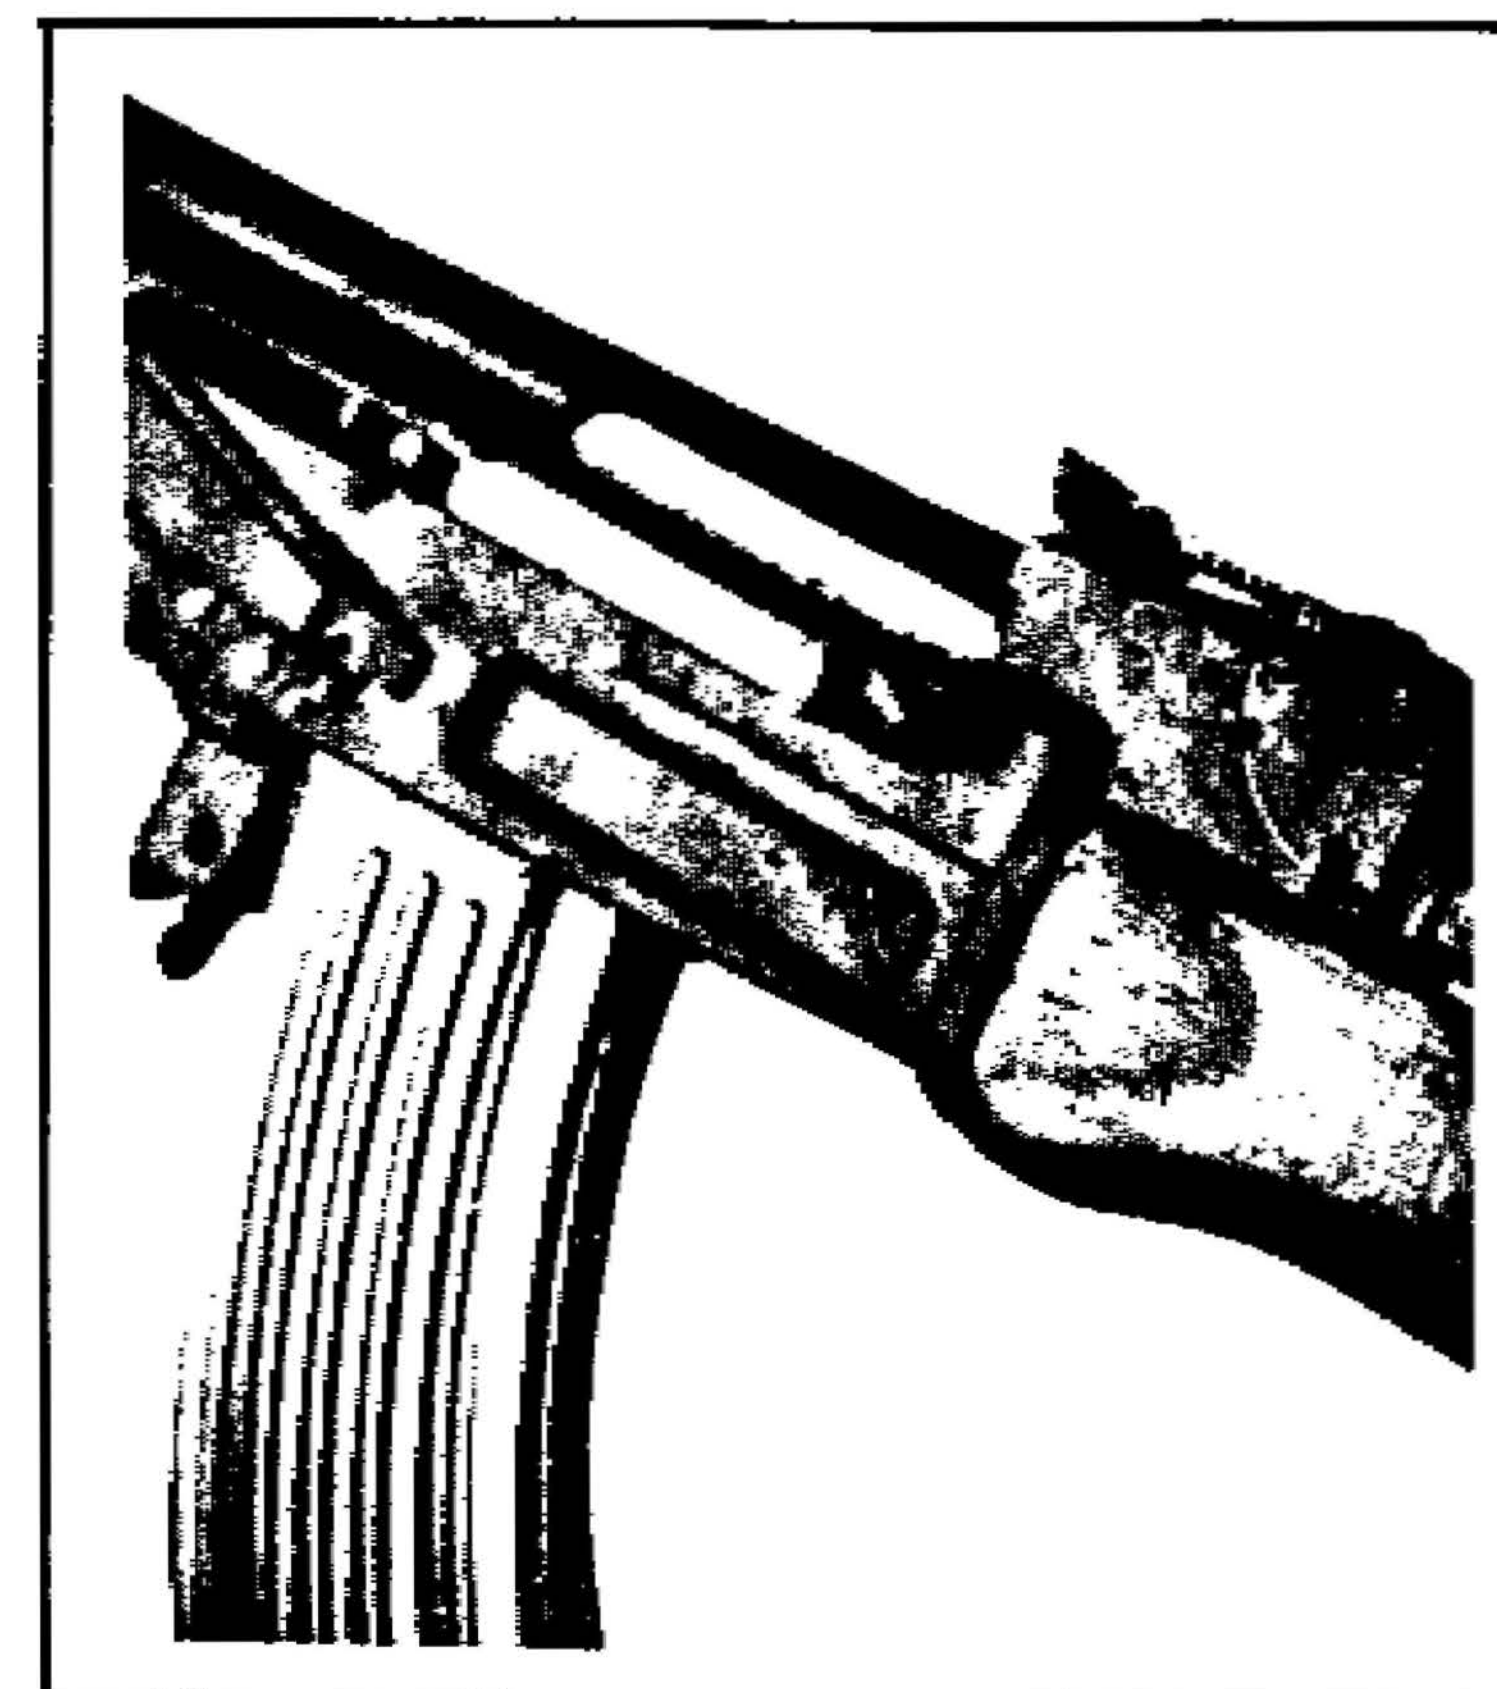
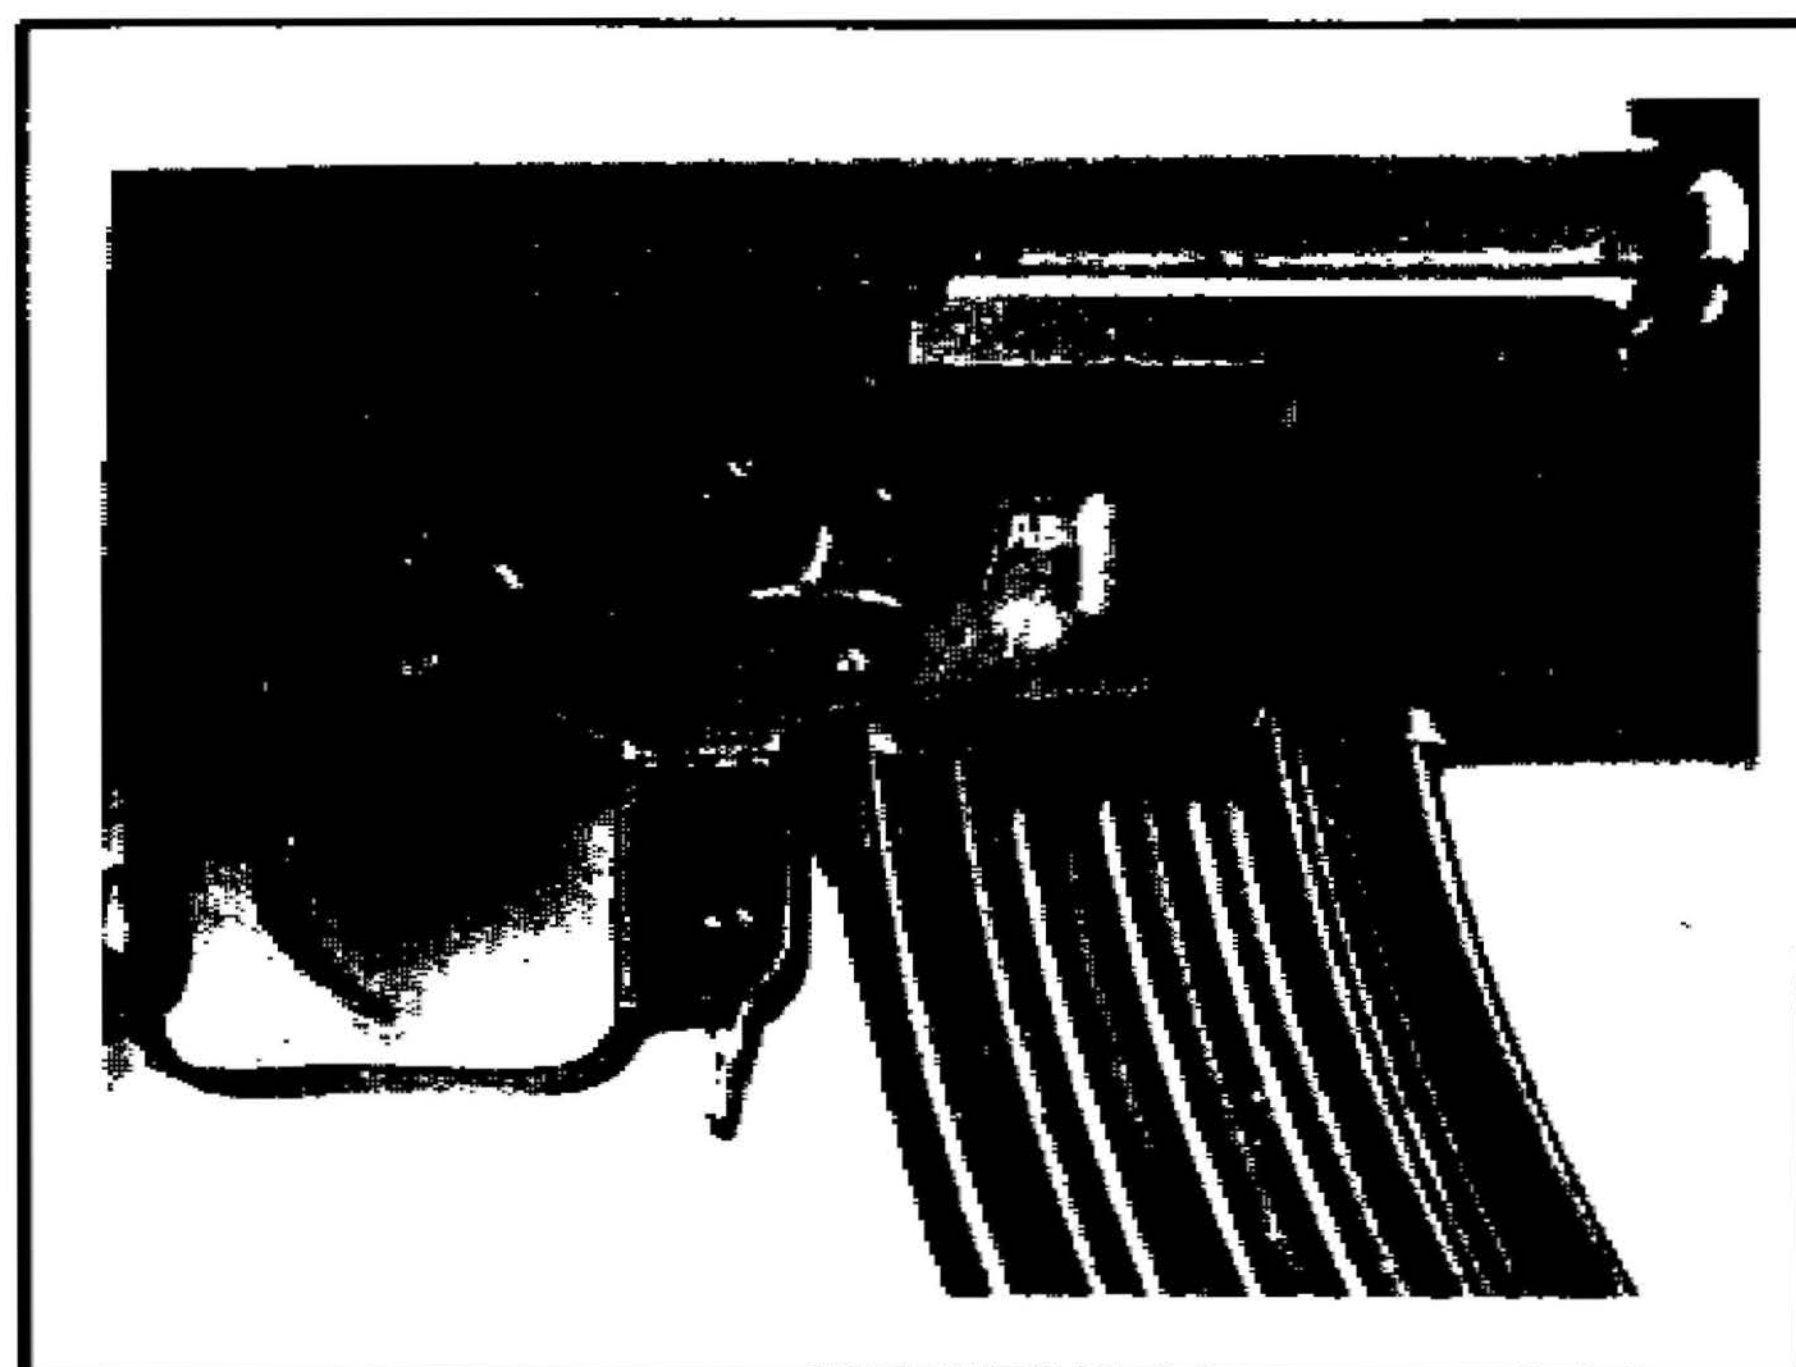

FIGURE 10. OPERATING HANDLE
FIGURE 11. SELECTOR IN FIRING POSITION
**Loading the AK-47:** Pull the operating handle (fig 10), fully to the rear and release it so the lug on the bottom of the bolt can strip a round from the magazine and into the chamber. NOTE: The selector (fig 11), must be in a firing position.